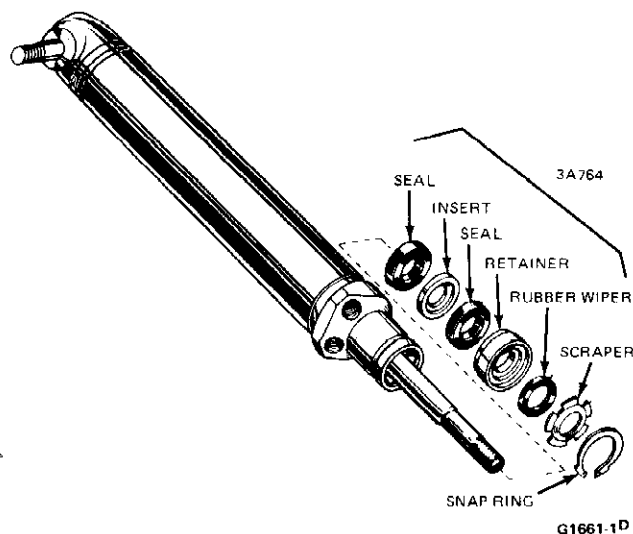

FIG. 8 Power Cylinder
1. When replacing seals, use all the parts in the repair kit. Coat the new seals and the piston rod with lubricant (COAZ-19553-A) and install repair kit parts (Fig. 8). Make sure that the garter spring on the seal is toward the bottom of the seal cavity and that the flat side of the plastic retainer is toward the inner seal.